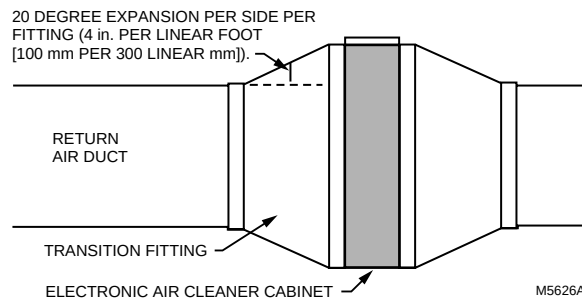

Fig. 3. Change duct size gradually to minimize turbulence.
Transitions are needed when the duct is a different size than the air cleaner cabinet. Gradual transitions reduce air turbulence and increase efficiency. Limit expansion to no more than 20 degrees or about 4 in. per running foot (100 mm per 300 linear mm) on each side of a transition fitting. See Fig. 3.
- ❑ Install a transition when the furnace and air cleaner openings are different sizes. See Fig. 3.
- ❑ Install a transition when the opening in the air cleaner cabinet and the duct are different sizes. See Fig. 3.